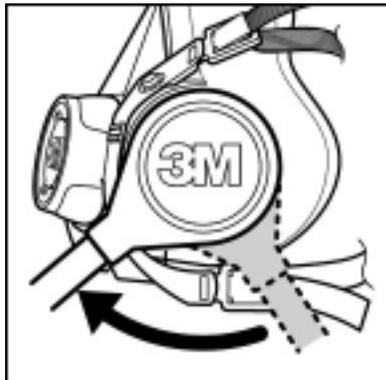

Fig. 7
2. Twist each branch of breathing tube clockwise a quarter turn until it is firmly seated in the bayonet and cannot be turned further. (Fig. 7 and 8) Do not forcibly overturn as the bayonet could be damaged. 3M SA-1500/SA-2500 shown.